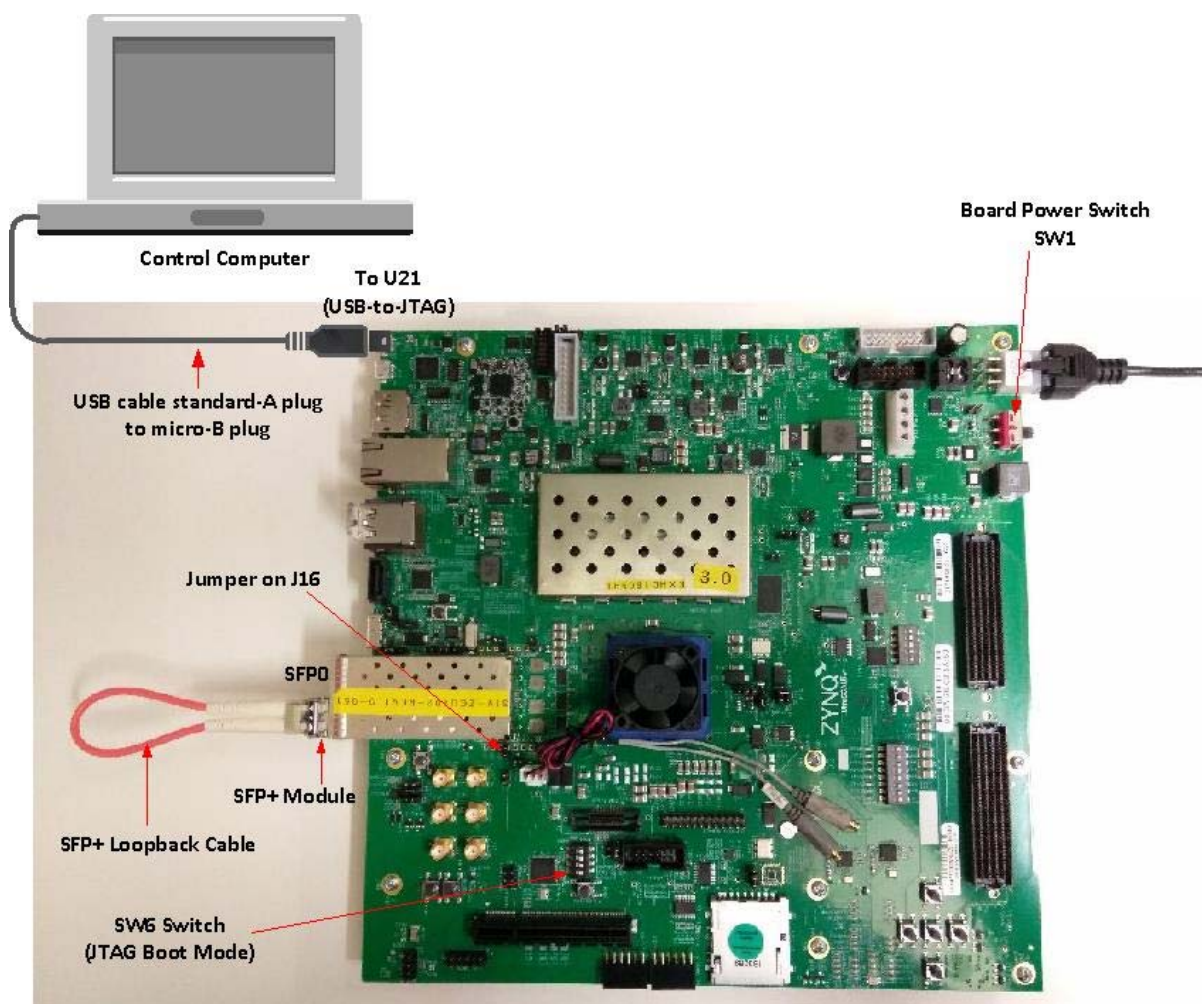

Figure 7: ZCU102 Board Setup for Reference Design
Figure 7 shows the ZCU102 connection diagram to bring up the Zynq® UltraScale+ MPSoC design.
3. Set the ZCU102 board switches and jumpers as shown in Figure 7.